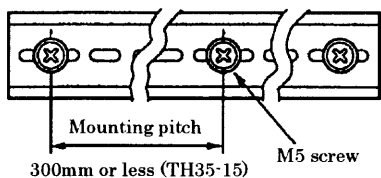
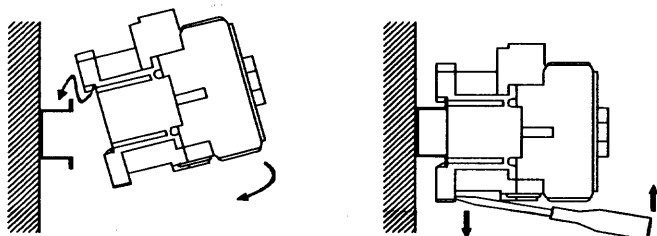

Fig. 2
Fig. 3
- (3) The rail mounting type can be attached on a standard 35mm IEC60715 mounting rail. Fuji type TH35-15AL mounting rail is recommended. Mounting of the rail on the panel (Fig. 2) Attachment and removal (Fig. 3)